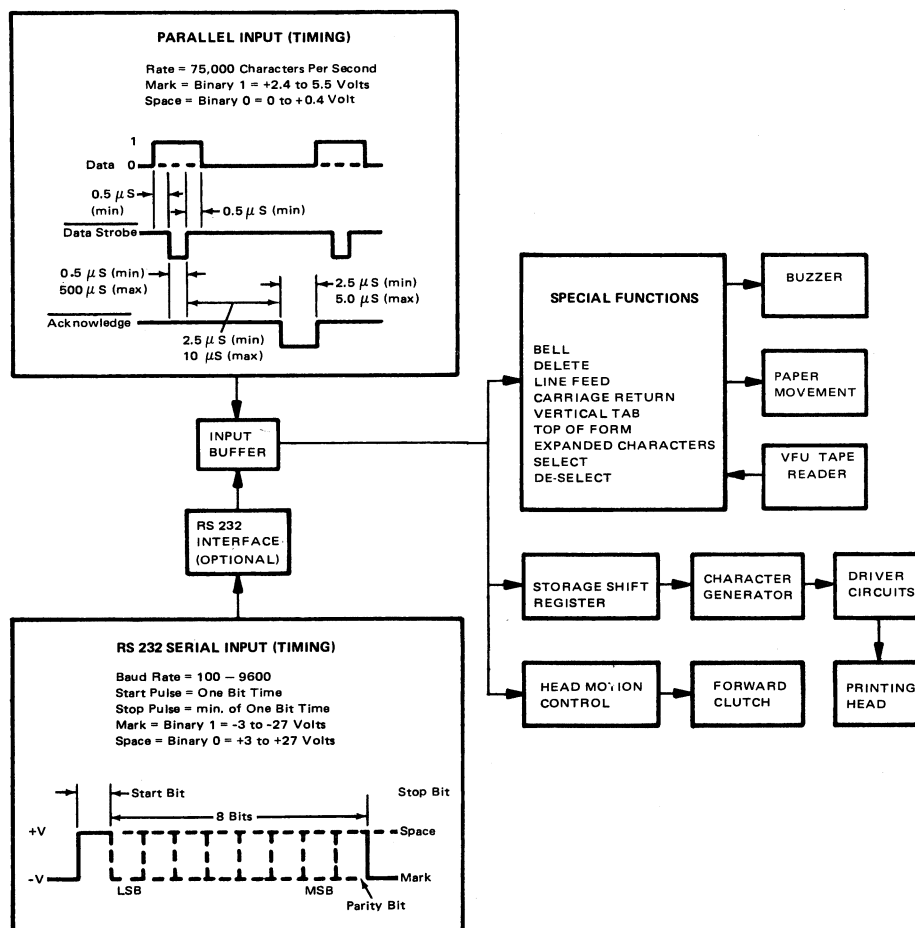

Figure 1-2. 101AL PRINTER LOGIC FLOW DIAGRAM
1.2 LOGIC FLOW DIAGRAM (Figure 1-2)